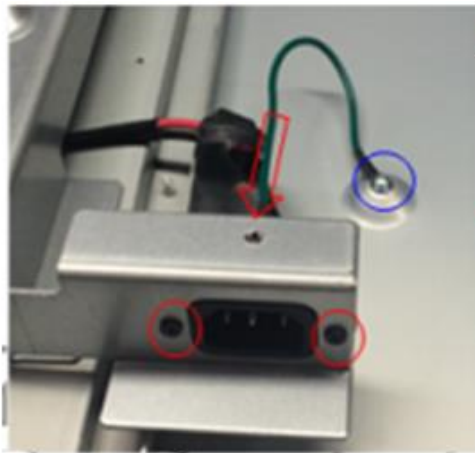

Fig 1
- ( 1 ) Use Philips-head screwdriver  $\Phi 5$  to remove power interface screw \*2pcs M3\*5. Torque: 4.5+/-0.5kgf .cm <fig 1 as red>
- ( 3 ) remove \*3 screws M3\*6 which interface board chassis fixed on panel. Torque: 4.5+/-0.5kgf .cm. And remove interface board chassis. <fig 1>